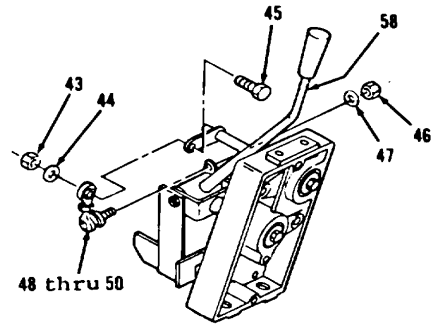
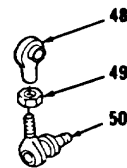
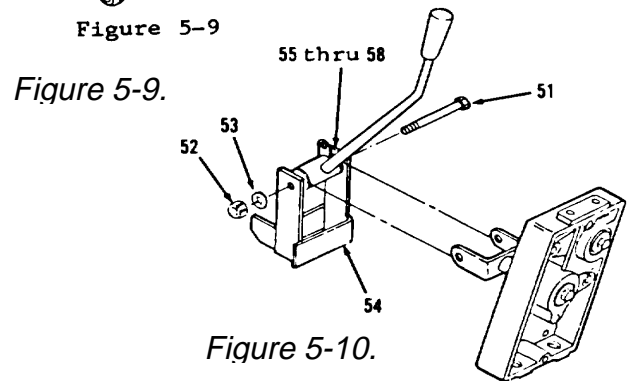

Figure 5-8.
Figure 5-9.
Figure 5-10.
20. Remove nut (43), washer (44) and bolt (45, Figure 5-8).
21. Remove nut (46), washer (47) and items 48 thru 50 as an assembly from lever (58).
22. Loosen nut (49, Figure 5-9).
23. Remove rod end (48) and nut (49) from rod (50).
24. Remove bolt (51), nut (52), washer (53) and items 55 thru 58 as an assembly from plate (54, Figure 5-10).